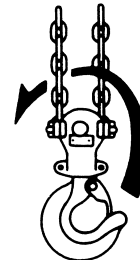

Figure 3 - Correcting Chain Twist
3. Examine the load chain to ensure that there is no twist. When your lever hoist is a 6 ton that lifts on 2 falls of load chains, twists can arise from the bottom hook being accidentally turned over through the load chains (See Figure 3).